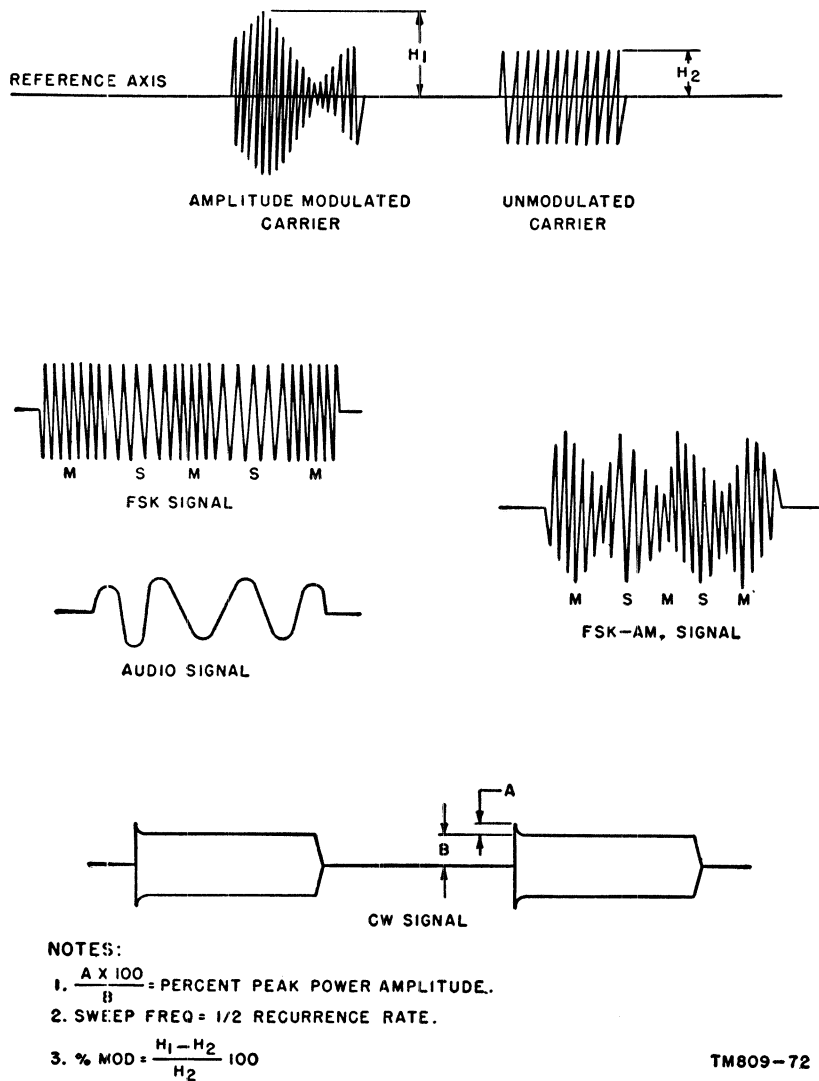

Figure 88. Wave forms.
f. Adjust the 600 OHM LINE GAIN control for 100 percent modulation, as observed on the oscilloscope (fig. 88). The EXCITATION meter should read 8 ma (min) for P A GRID X2 and 70 ma (max) or 20 ma (min) for INT AMP PLATE X10.
(fig. 88)
- (1) With the audio oscillator connected for 600-ohm line operation (CARBON MIKE GAIN control turned down), adjust it for a 1-ke audio signal.
- (2) Adjust the 600 OHM LINE GAIN control for 40 percent modulation. This is done by observing the modulated wave on the oscilloscope for a height of 1.4 times the height of the unmodulated wave. Refer to note 3 on figure 88 for use of the modulation formula.
- (3) While varying the input signal frequency, measure the input power to obtain 40 percent modulation. The input power should have the following values for the given frequencies:
- b.* Adjust the equipment for 95 percent modulation (fig. 88) with a 1-ke audio input.
b. Apply fsk signals (fig. 88) of a maximum of 5 volts to the FSK input receptacle (J16) at the following frequencies and control settings. Note the output power.